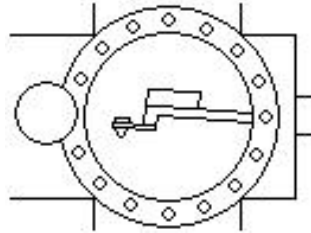

Figure 1: The load arm should be positioned at an angle with respect to horizontal while loading the target and substrate into the PLD chamber.
2. Using the y-axis loading arm adjustment, labeled 2 in figure 2 on page 10, angle the loading arm at about 10 degree angle as shown in figure 1.
11. Using the y-axis loading arm adjustment, labeled 2 in figure 2 on page 10, angle the loading arm at about 10 degree angle as shown in figure 1.